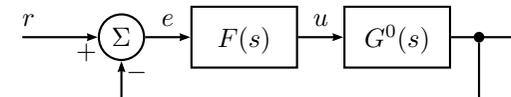

Figure 6.4a
- 6.4 Consider the control system in Figure 6.4a. The true system, denoted $G^0(s)$, is modeled as